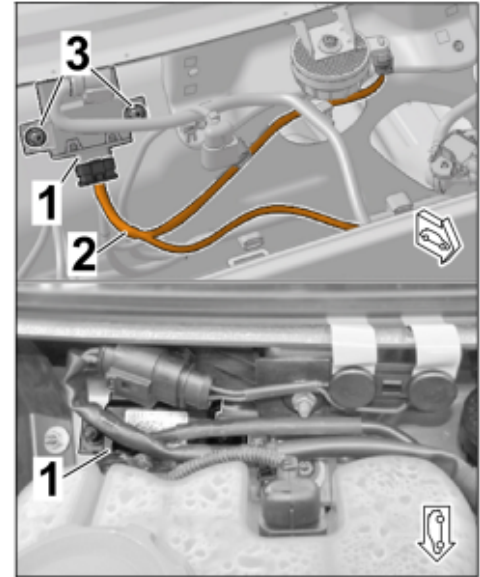

Figure 19
- 2.2 Install engine noise control unit (⇒ *Figure 19*)
2.2.2 Position the engine noise control unit on stud bolt M6 (2 x) in the water tank and fasten with hexagon collar nut (2 x) (⇒ Figure 19).